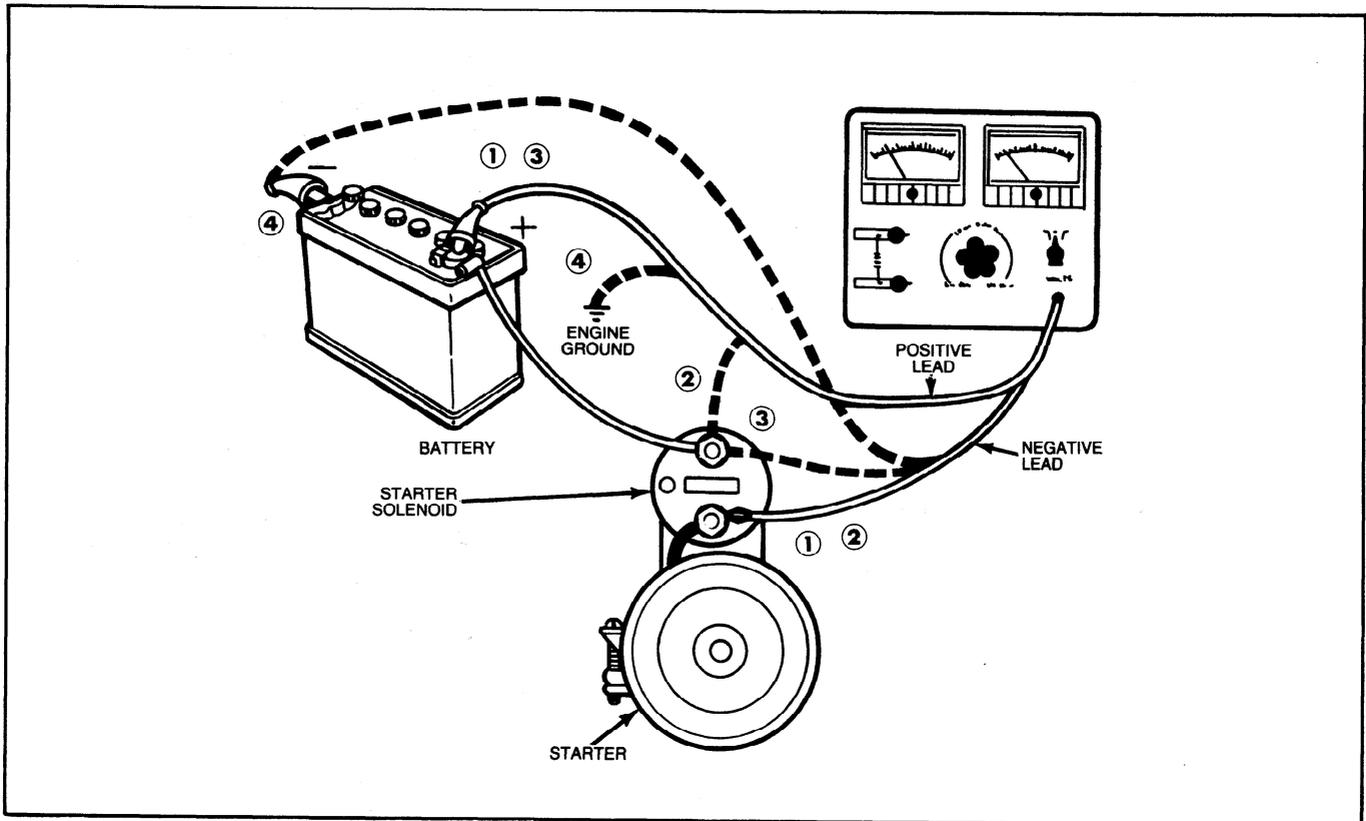

FIG. 1 Starter Cranking Circuit Tests
These tests will determine whether or not there is excessive resistance in the cranking circuit. Make each test connection as shown in Figure 1. While cranking the engine, observe the voltage drop reading for each test. **Disconnect and ground the high tension lead from the ignition coil to prevent the engine from starting. Connect a remote control switch between the battery terminal of the starter relay and the S terminal of the relay.**
1. With the voltmeter negative lead connected to the starter terminal and the positive lead connected to the battery positive terminal (Figure 1 connection No. 1) 0.5 volt.
terminal and the positive lead connected to the battery terminal of the starter solenoid (Figure 1 connection No. 2) 0.3 volt.
3. With the voltmeter negative lead connected to the battery terminal of the starter solenoid and the positive lead connected to the positive terminal of the battery (Figure 1 connection No. 3) 0.2 volt.
4. With the voltmeter negative lead connected to the negative terminal of the battery and the positive lead connected to the engine ground (Figure 1 connection No. 4) 0.1 volt.